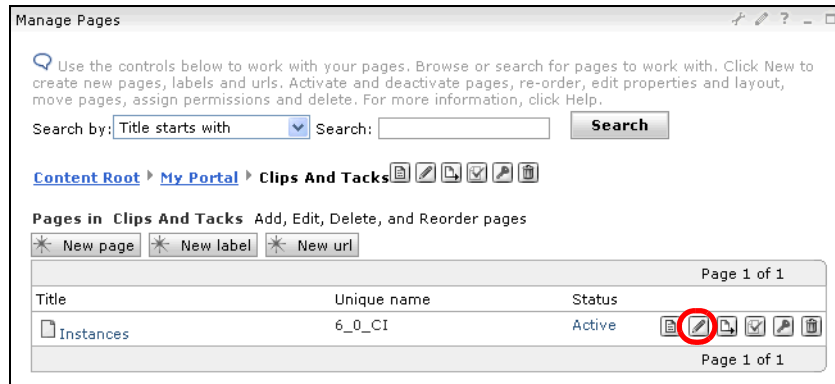

Figure 14-64 Creating portal pages for ClipsAndTacks
- ▶ Select the *Clips And Tacks* portal page, then click *New page* and type *Instances* as title. Click *OK* and the *Instances* page is added (Figure 14-64).